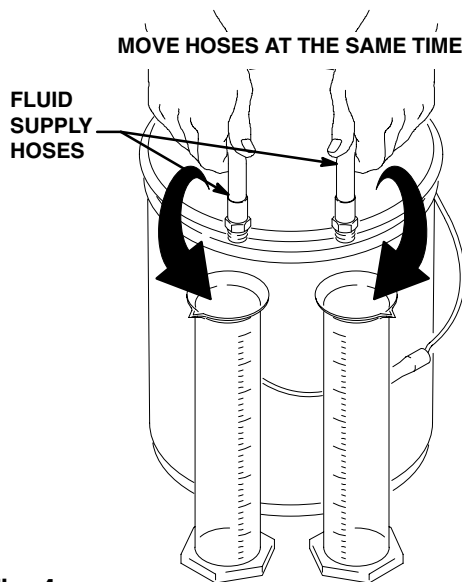

Fig. 4
1. Disconnect the fluid hoses from the mixer inlet valves, taking note of which hose was connected to which valve. Then place the hose ends into a waste container. Set two graduated cylinders of the same size next to the waste container. See Fig. 4.